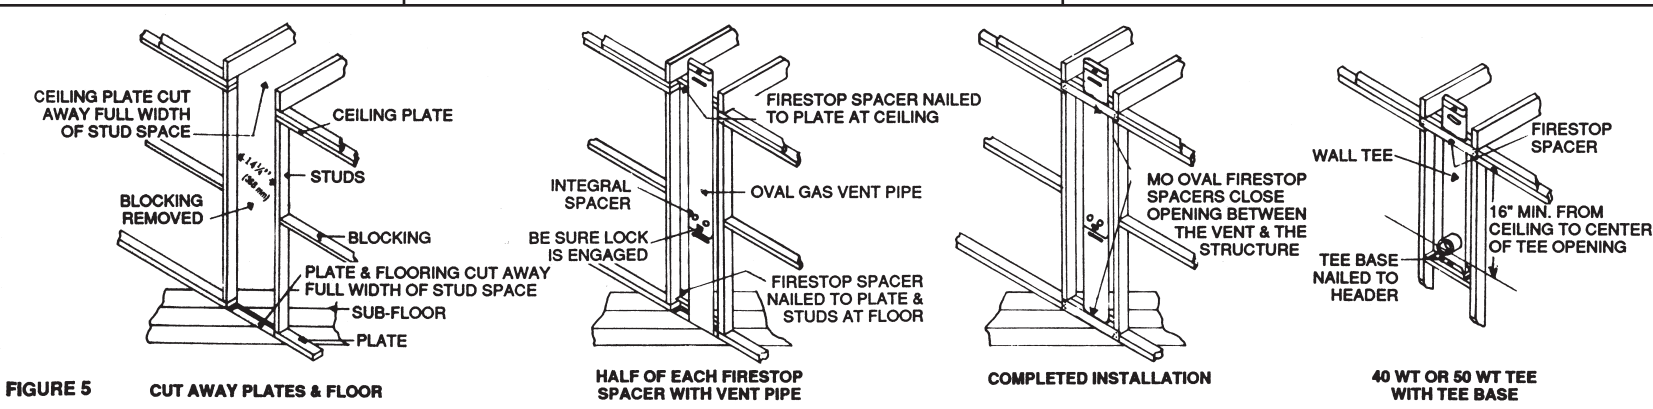

FIGURE 5
1. Normally the appliance outlet is of a round shape. Therefore, a B-Vent Section or Drafthood connector (MDC) will be attached to the appliance. To transition to oval sections, a Round to Oval Adapter (MRO) is required. The floor and ceiling plates must be cut away to allow placement of the oval. To position the oval, and maintain clearance to combustibles, a firestop (MOFS) is used at the floor and the ceiling (See Figure 5).
2. If the appliance is in the same room as the entry to oval vent, the oval tee (MOT) can be installed in the wall studs. To close the bottom of the Tee, use the Tee Cap (MOTC). To support the Tee within the wall studs, use the Tee Support (MOTS). As the oval vent continues upward, use the MOFS at the ceiling level (See Figure 5).